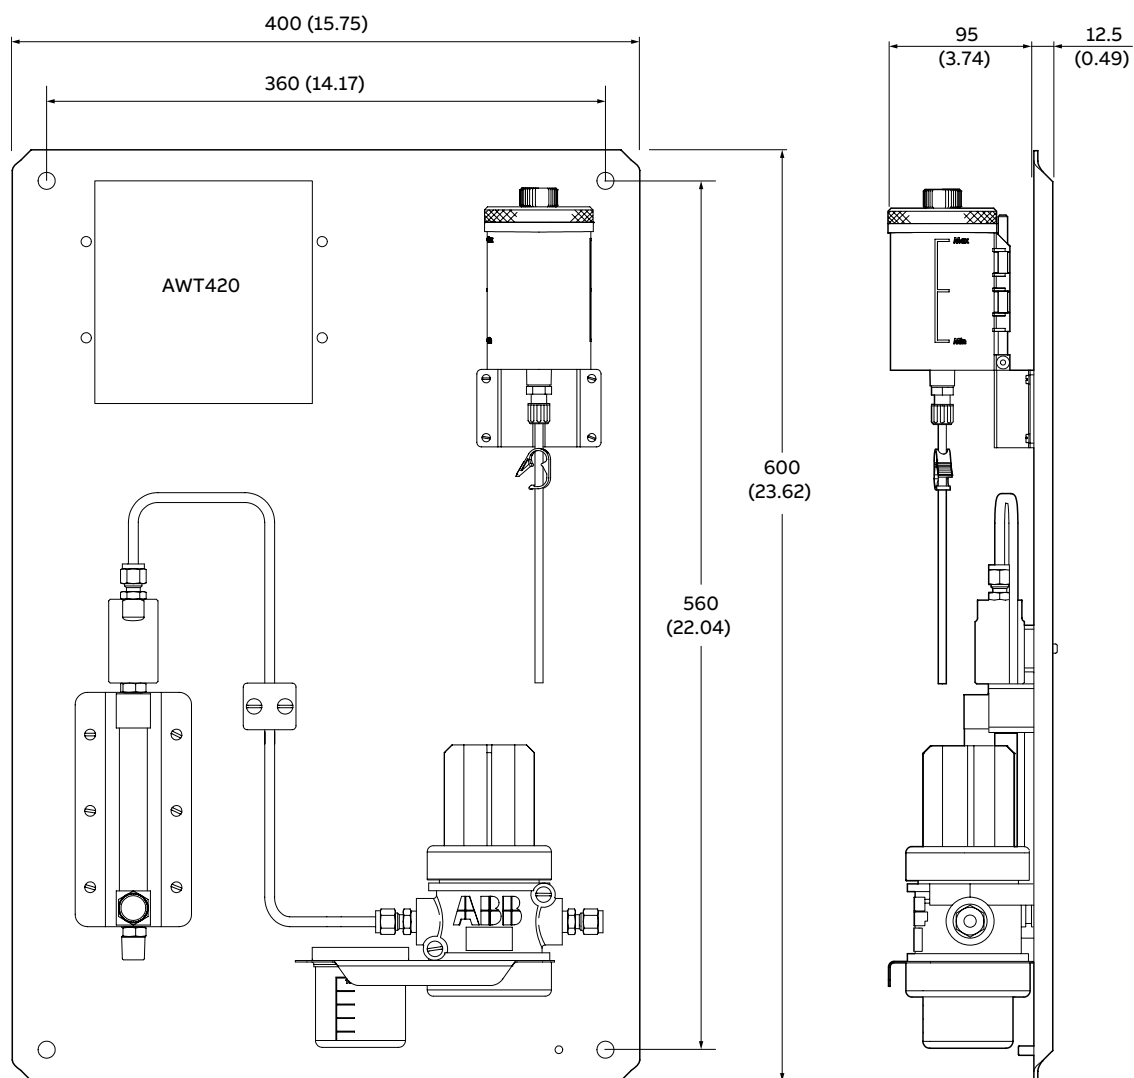

Figure 2 700 ULTRA panel dimensions
- 1 Mark the four holes in each corner of the panel on the wall using the mounting hole dimensions in Figure 2, page 4.